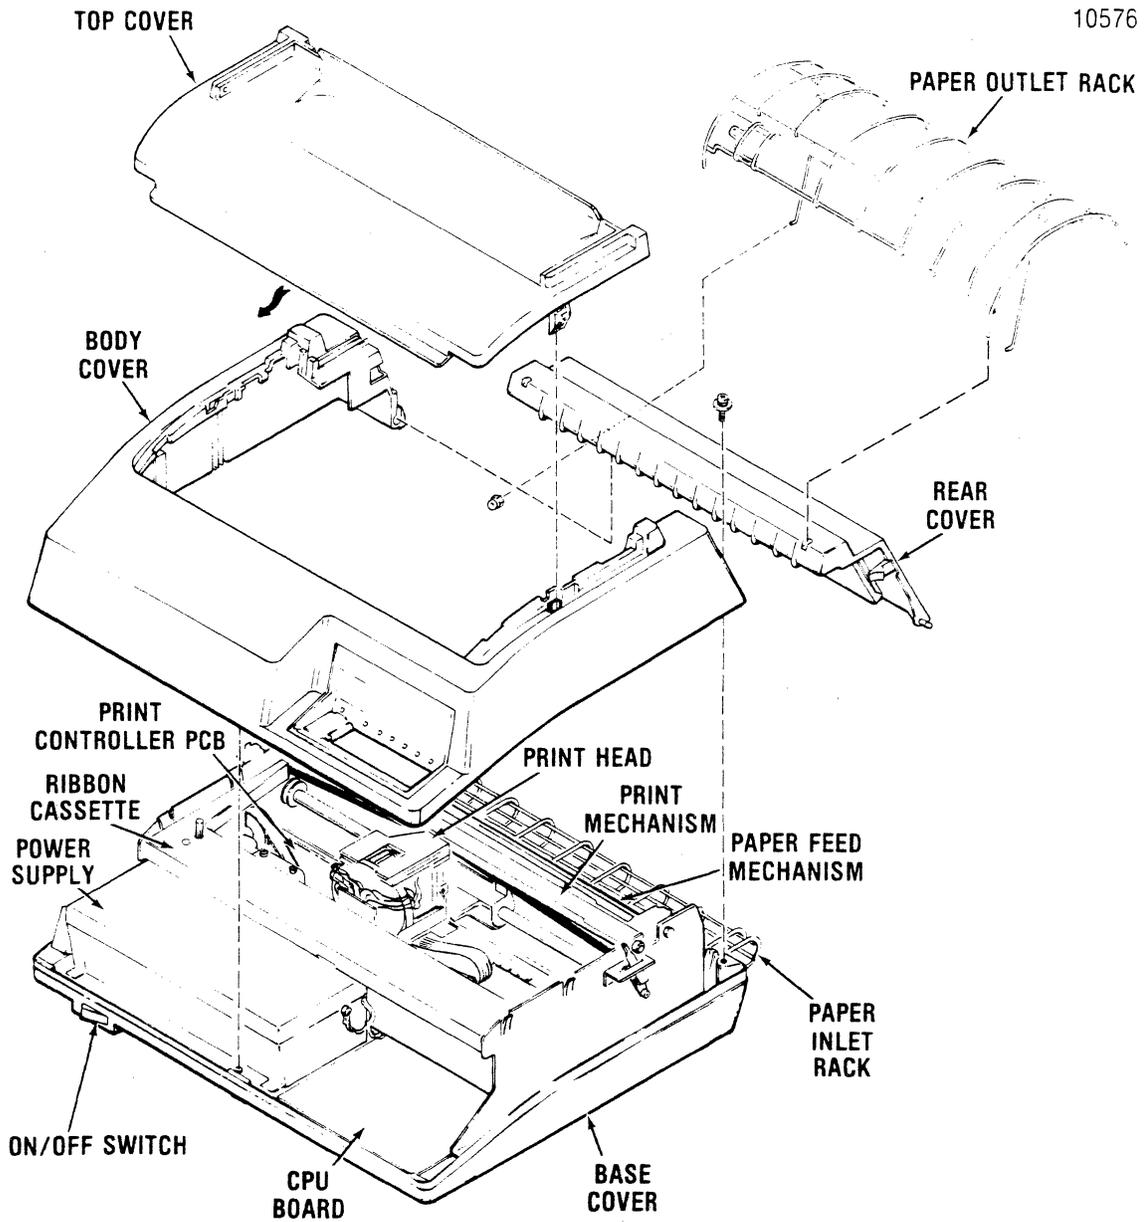

Figure 3-2 Removal/Replacement, Paper Outlet Rack Assy, Paper Inlet Rack, Cover Assemblies, and Cover Interlock Magnet
The paper inlet rack, item 2 of Figure 3-2, attaches to the lower rear of the printer and guides the forms into the paper feed mechanism. To remove the inlet rack, refer to Figure 3-1 and perform the following steps:
2. Pull the inlet rack (2) straight out and then away from the printer.
The paper outlet rack assembly, item 1 of Figure 3-2, attaches to the rear cover and guides the printed forms over the printer and into the paper basket. To remove the outlet rack assembly, refer to Figure 3-2 and perform the following steps:
The cover interlock magnet, item 3 of Figure 3-2, is located in a slot on the underside of the clear cover. The purpose of the magnet is to disable the Hall effect interlock switch when the cover is closed, and to enable the switch when the cover is open. To replace the magnet, refer to Figure 3-2 and perform the following steps: